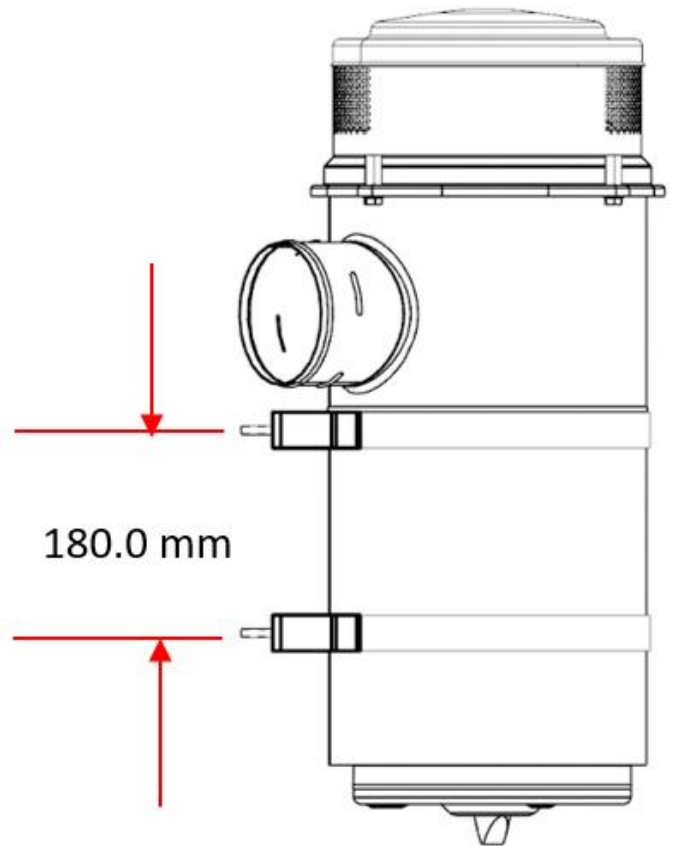

Figure 3
4. Position the new band assembly directly next to and below the formed bead, Figure 3. The band clamp should **not** be covering any part of the bead. The band clamp should be located next to but not covering any part of the bead.
5. Figure 3 shows both band clamp assemblies installed with the 5/16 in bolts oriented for assembly onto the truck.